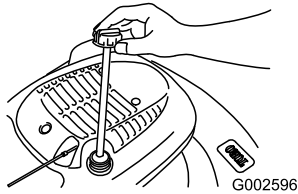

Figure 31
2. Retirez la jauge (Figure 31).